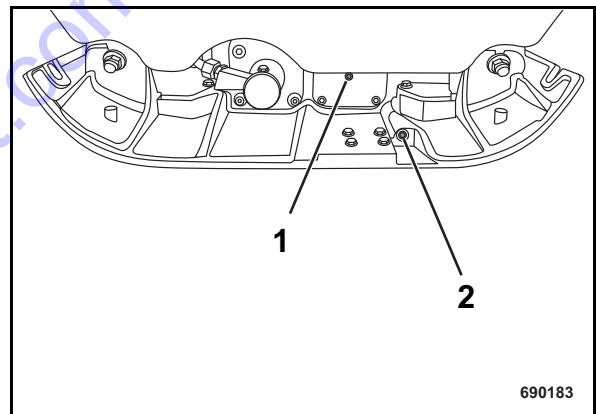

Fig. 75
- Clean oil drain (2) (Fig. 75) and bleeding screw (1) and assemble both screws with sealing compound (e.g. BOMAG part-no. 00970016).